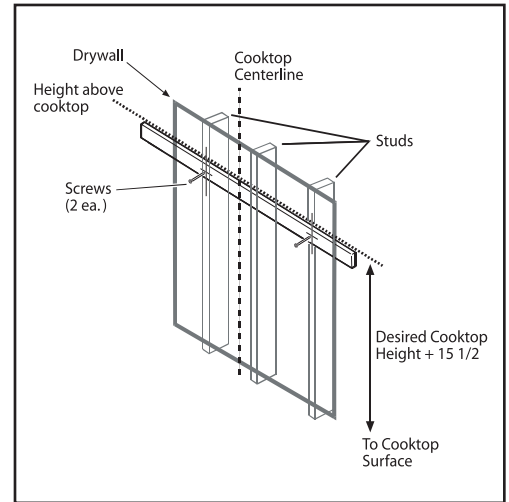

Figure 3 PHE & PH_Z
4. Find studs behind the drywall by tapping the wall or using a stud finder. Locate one stud on either side of the cooktop centerline to use for mounting the wooden bracket as shown in Figure 3.
7. Use 2 - 4 screws to attach the bracket to the wall as shown in Figure 3. For support of longer hoods, use three or four studs as available. Countersink the heads to prevent interference with the hood.